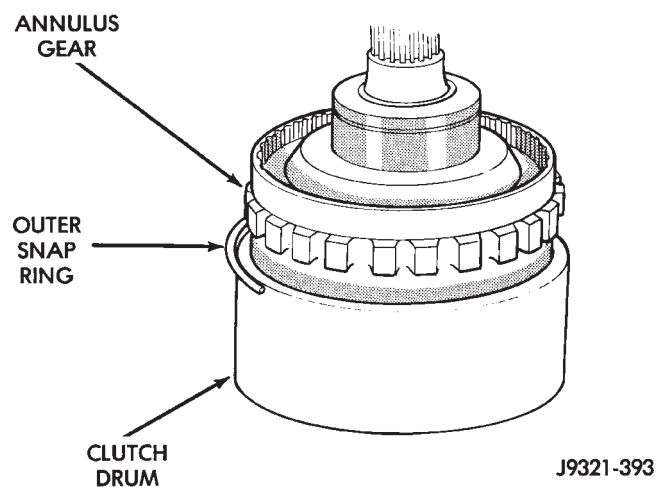

Fig. 212 Clutch Drum And Outer Retaining Ring Installation
(4) Align and install clutch drum on annulus gear (Fig. 212). Be sure drum is engaged in annulus gear lugs.
(5) Install clutch drum outer retaining ring (Fig. 212).